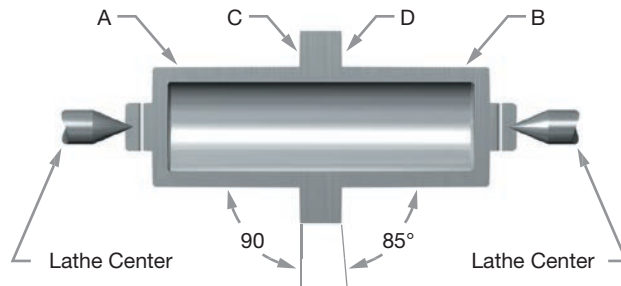

Figure 25: Nozzle Lap in a Lathe
Machine the standard disc seating surface (see Figure 25) as follows:
- Grip the disc (6) in a four-jaw independent chuck (or collet, if appropriate), using a piece of soft material such as copper or fiber between the jaws and the disc (see Figure 25).
- True-up the disc (6) so that the surface marked B and C run true within .001" (0.025 mm) on the total indicator reading (see Figure 25).
or T (Figures 30a, 30b, 30c and Tables 5a and 5b) is reached. Do not reestablish surface C (see Figure 25).